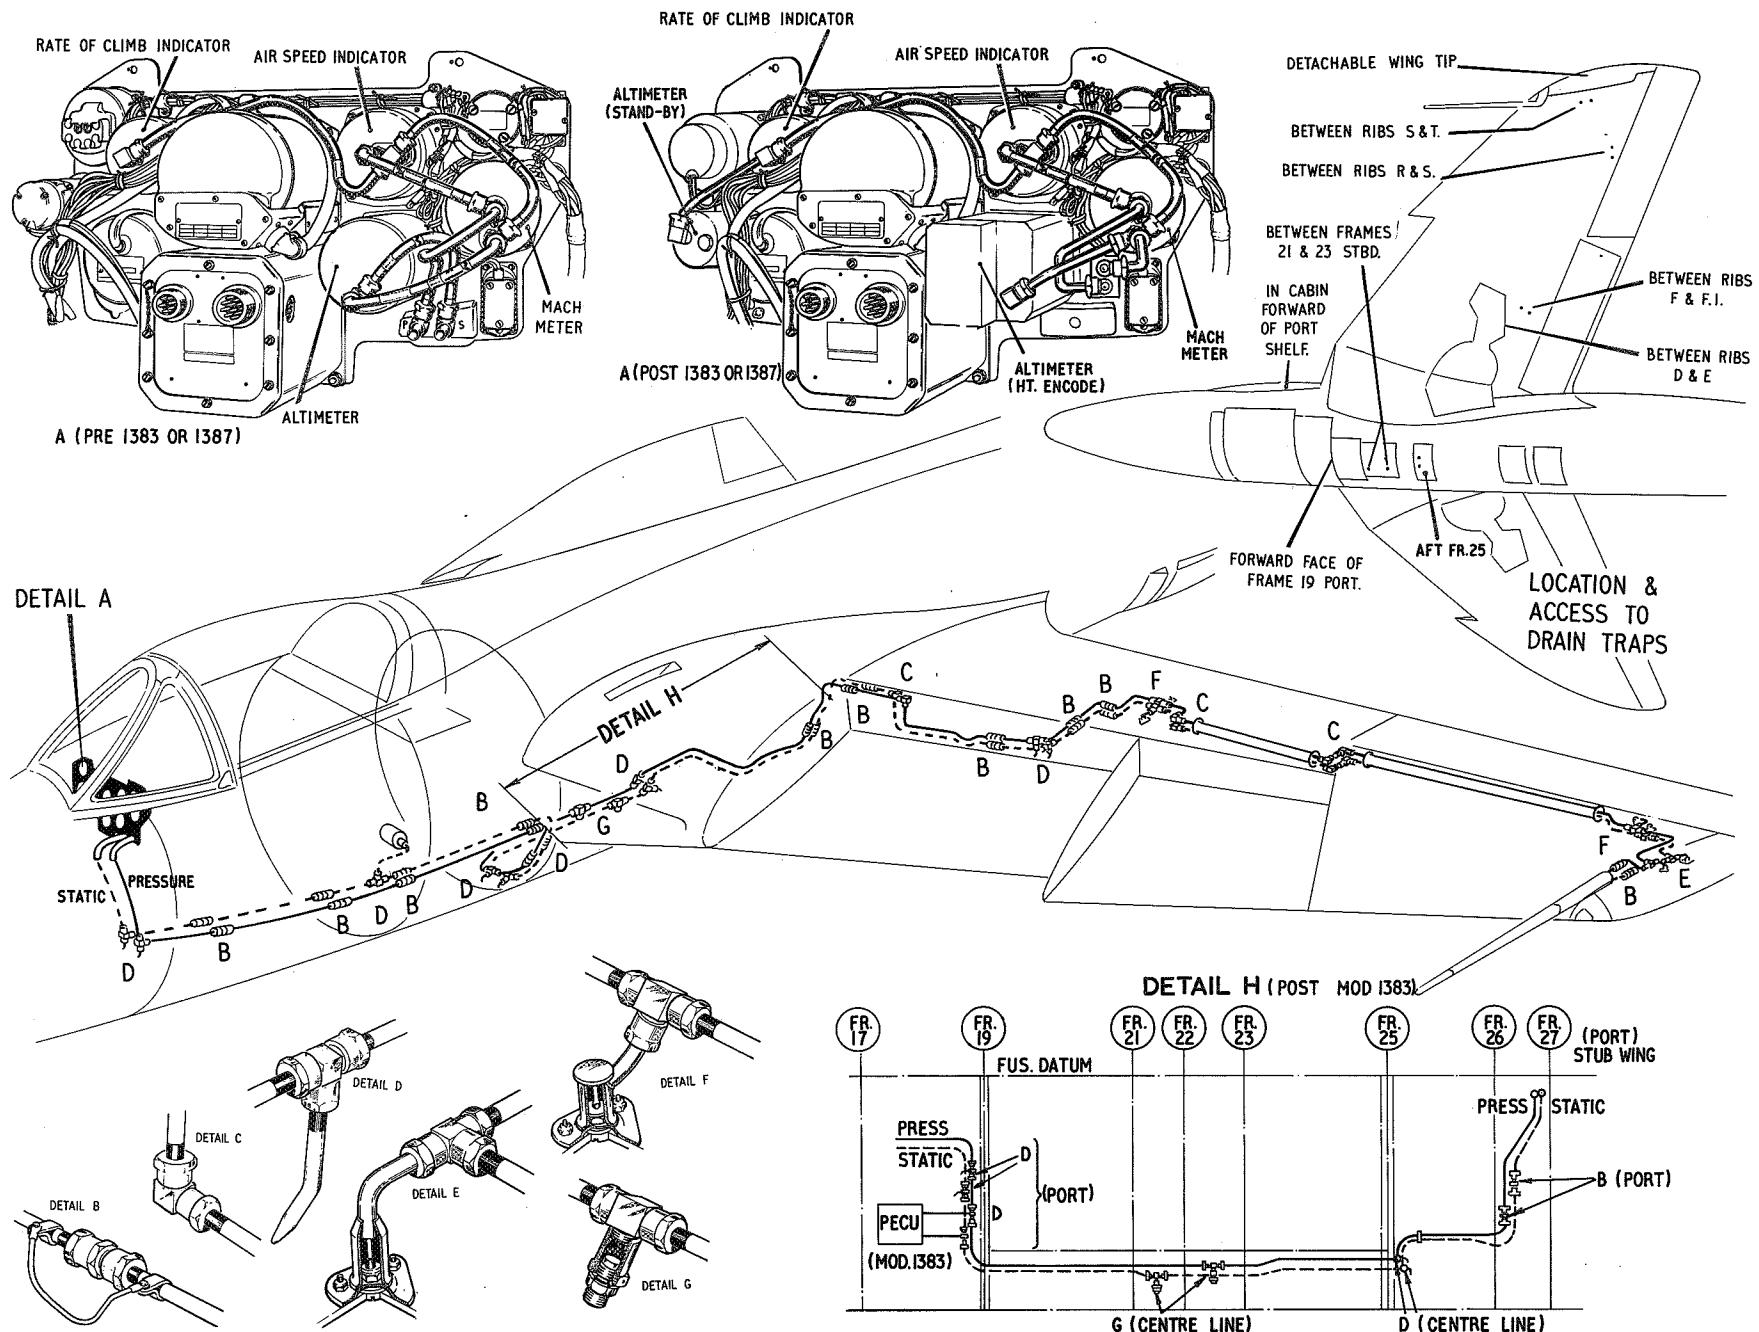

Fig.1 Pressure head installation
2. The pressure head installation (fig.1) operates the air speed indicator, machmeter, altimeter and rate of climb indicator, and consists of an electrically heated pressure head, projecting forward from the port wing tip. The pressure head contains the pressure and static pipes, together with an electric heater element. The pressure and static pipes in the head are connected by a
system of pipe lines to the instruments, via the pressure and static connectors, which are mounted on the port forward face of the centre instrument panel. Moisture entering the pipe lines is collected by a number of drain traps located in each pipe line as shown in fig.1.